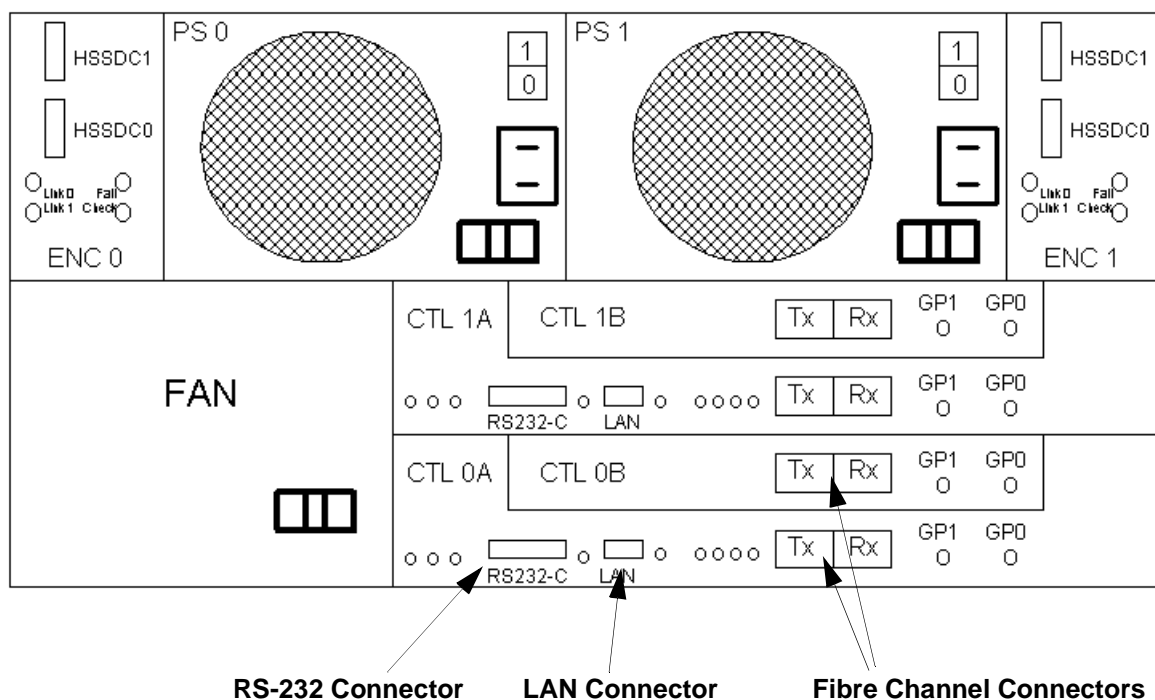
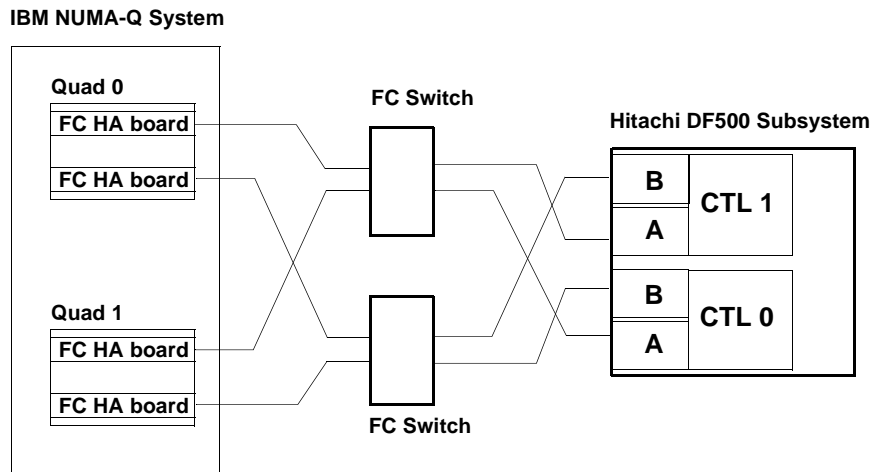

Figure 7-5.
Figure 7-6.
4. Use the **dumpconf**, **diskid** and **infodev** commands to verify that all **sd** devices were found at system boot, to determine which of these are DF500 devices, and to determine fabric and path information for the DF500 devices. Figure 7-5 shows sample output for these commands for a switched fabric (FC-SW) connection; Figure 7-6 shows sample output for these commands for a direct connect arbitrated loop (FC-AL) connection.